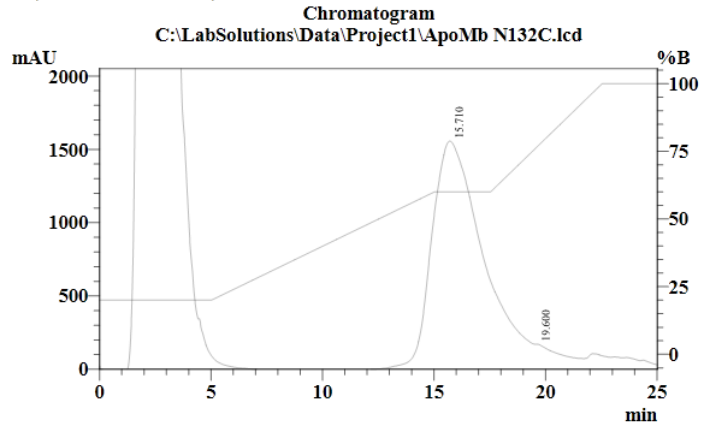

Figure 2: HPLC trace
14. Some ApoMyb mutants will form high molecular weight oligomers ($M_r > 75\text{kDa}$) during the refolding step, thus an additional gel filtration step (Superdex 75) is required to separate the 2 species (see figure 2). Note: for the holo protein samples this step is not necessary because the misfolded species precipitates out during the heme reconstitution step. For the gel filtration step, use the following buffer: 50mM sodium acetate and 100mM at NaCl pH 6.1 (**the salt is absolutely required to avoid nonspecific interaction of the protein with the column**). There will be, at least, 2 peaks in most cases (*see Fig 2 below*: $V_r = 7.7\text{mL}$ and $V_r = 12.6\text{mL}$). Collect the 12.6mL fraction and do a buffer exchange (10mM sodium acetate, pH 6.1) before EPR studies. This is the final step in the preparation of apomyoglobin in the native state.